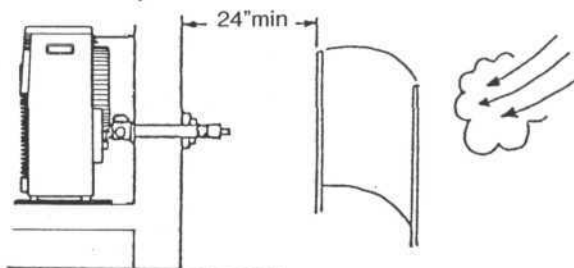

Fig. 6
- The area outside where the flue pipe will emerge should be free of foliage, fuel storage tanks and flammable objects. Air should circulate freely in the area. Allow the clearances shown in Figure 6 on the next page.